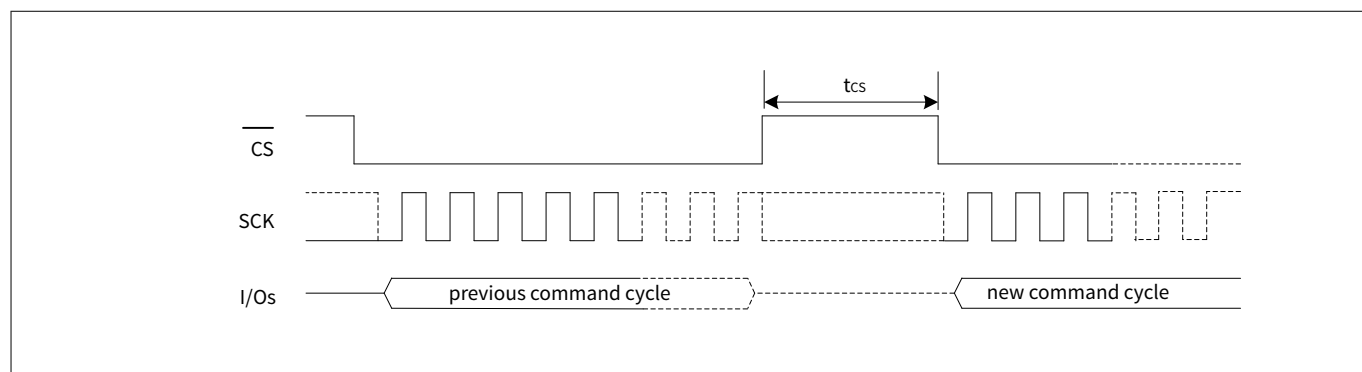

Figure 118 Chip deselect (\overline{CS} HIGH) - t_{cs} timing
4) t_{CS} is the minimum chip deselect (\overline{CS} HIGH) time before the new command cycle starts in a specific SPI mode (SPI, DPI or QPI). This parameter ensures that previous operation is successfully completed before the host starts a new command cycle. Refer to Figure 118
- 4) t_{CS} is the minimum chip deselect (\overline{CS} HIGH) time before the new command cycle starts in a specific SPI mode (SPI, DPI or QPI). This parameter ensures that previous operation is successfully completed before the host starts a new command cycle. Refer to Figure 118